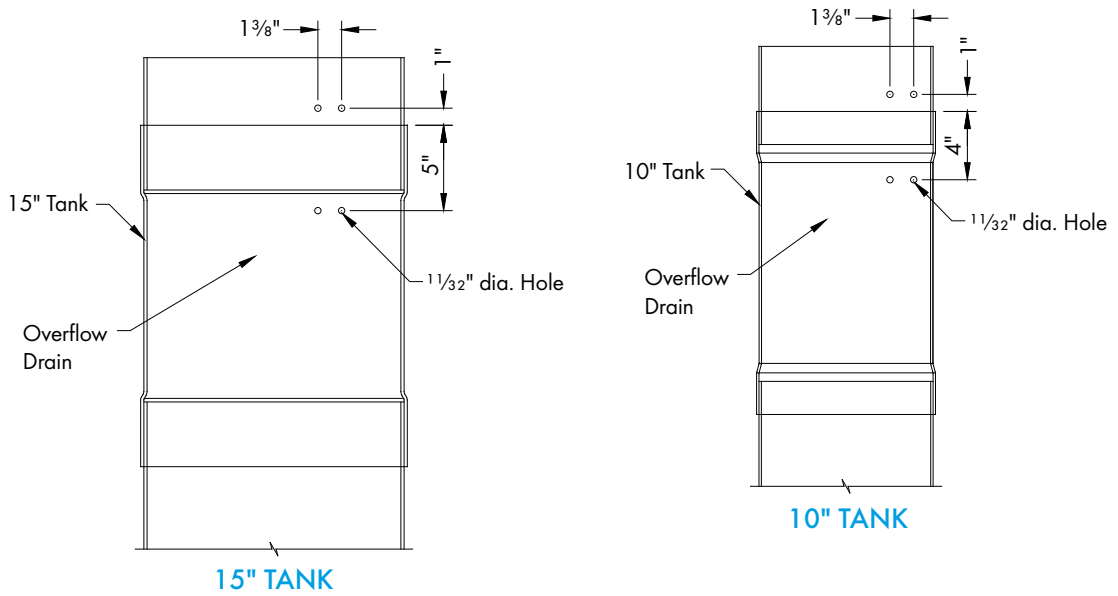

Figure 22C
On the cooling system Tank Kit drill (4) 1 1/2" dia. holes as shown in Figure 22C. The holes should be located on the side of the Tank Kit that is opposite the 8" Pipe, and so that the float assembly can swing freely and is not obstructed by anything.